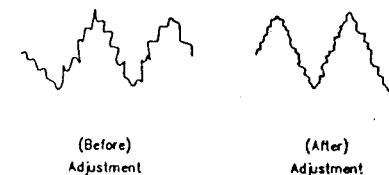

Figure 14
- 3) Adjust L170 until the amplitude A of pilot waveform is proper (See Fig. 14).